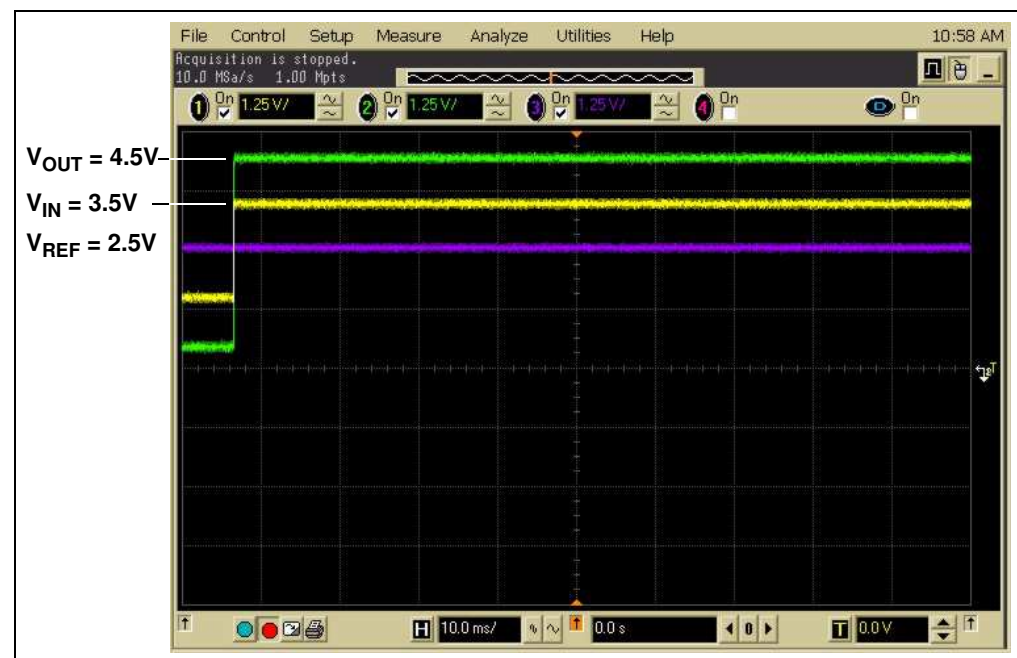

FIGURE 2-14: Measured Step Response.
- The measured step response is shown in Figure 2-14. It is a signal with a step amplitude of 4.0V and a center voltage of 2.5V. (i.e. V_{OUT} starts 2.0V below center and ends 2.0V above center)